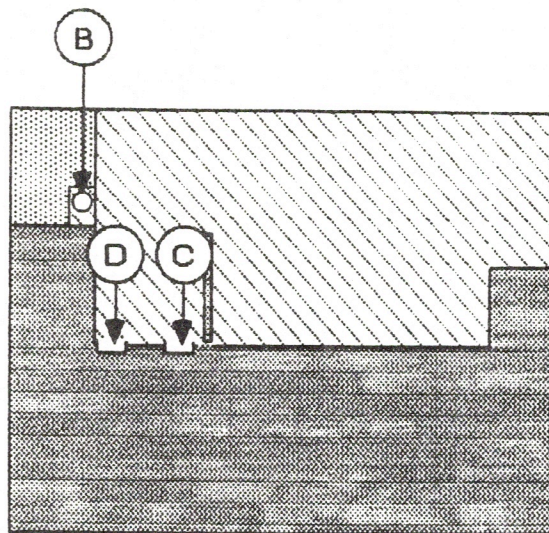

Figure 7
5. **IMPORTANT:** Lift up the two assemblies to make sure that tabs C and D on the logic assembly baseplate fit fully into slots C and D on the mechanism assembly baseplate (see Figure 7), and that tab B is correctly seated over its threaded hole. If the tabs are not correctly seated, repeat step 4.